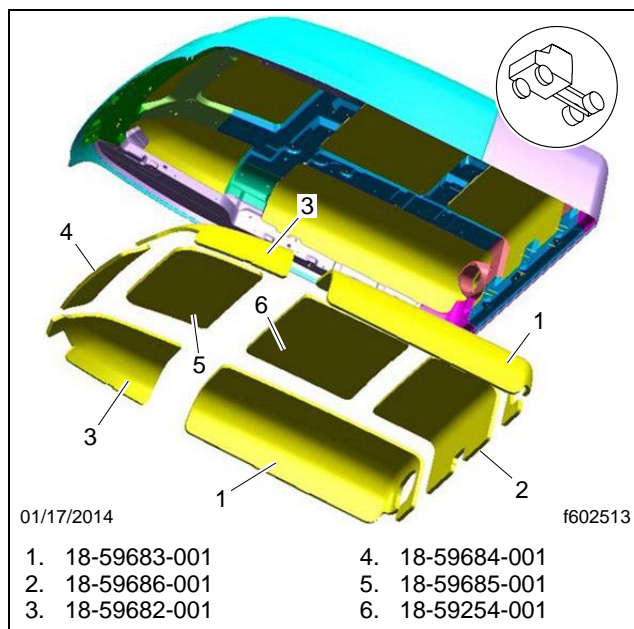

Fig. 9, 72-Inch XT Roof Cap Insulation Inserts
- See **Fig. 9** for 72-inch XT roof cap insulation inserts.